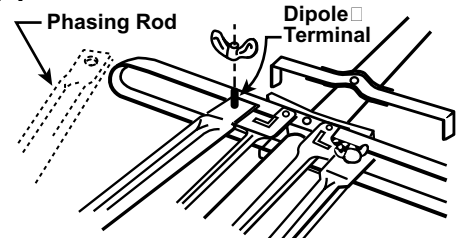

Fig. 5
4. Thread standout into hole provided in lower reflector crossarm. (See Fig. 5).